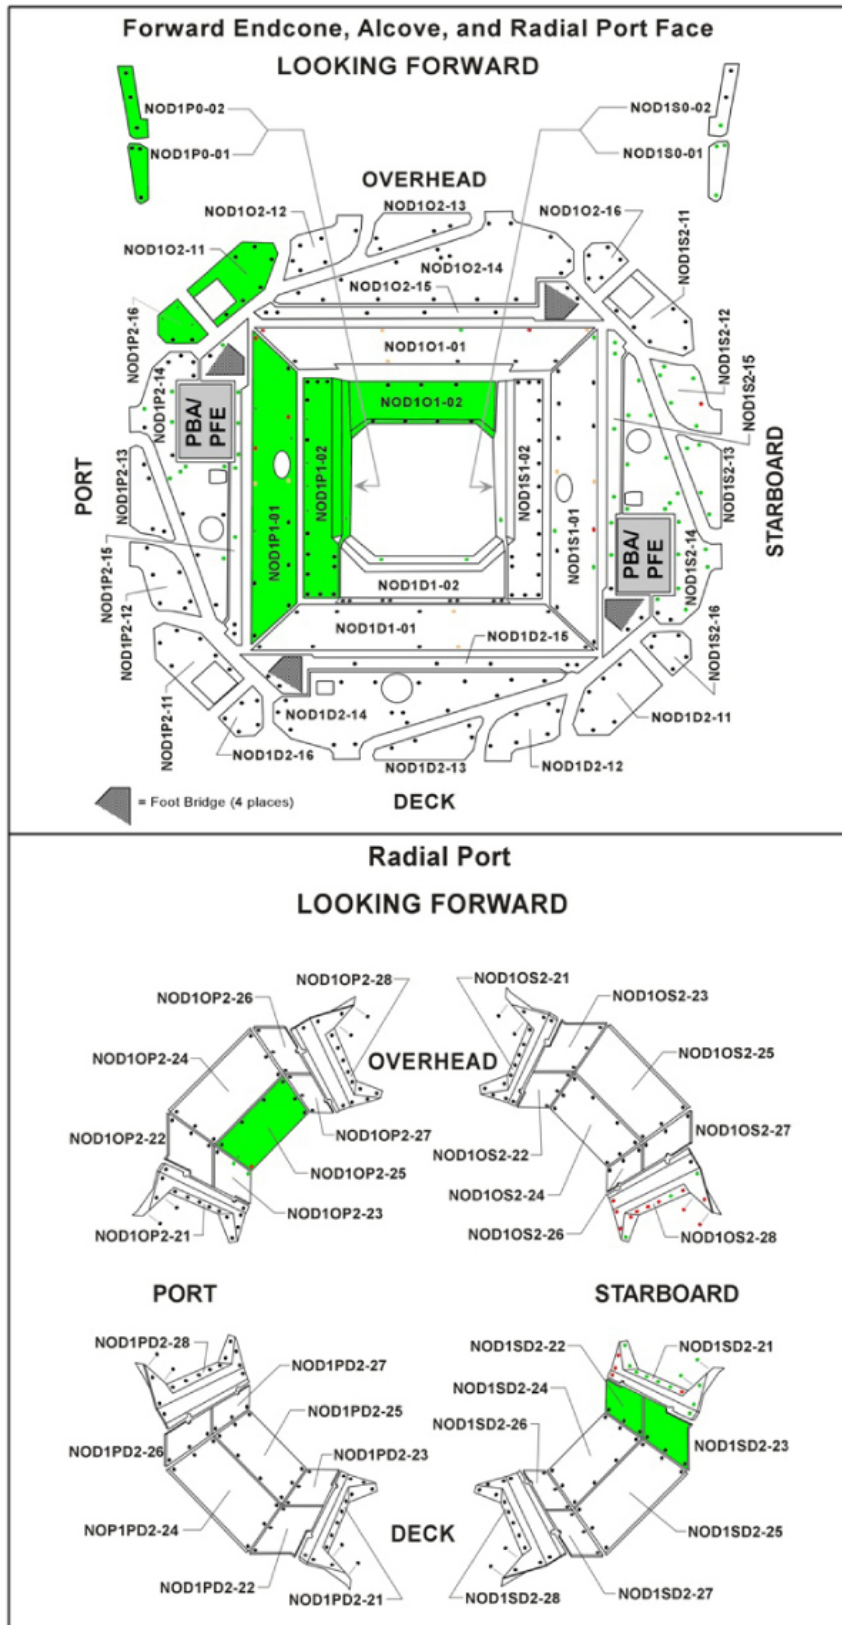

Figure 1. Node 1 Closeout Panels to be Removed.
- 2.1 Relocate any items from front of affected Closeout Panels. Refer to Figure 1.
- 2.4 Remove NOD1SD2-22/NOD1SD2-23 Closeout Panels, fasteners (six) (5/32" Hex Head, 1/4" Drive; Driver Handle, 1/4" Drive) Temporarily stow. Refer to Figure 1.
Refer to Figure 1.